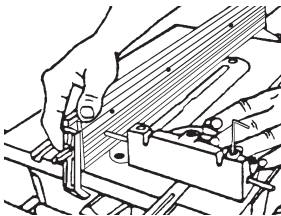

Figure 71
- b. Use a Medium Screwdriver to adjust the Glides in or out, as illustrated in Figure 71, so that the Glides hold the Miter Gauge 1/64" to 1/32" off the Worktable and the Miter Gauge does not rock in the Slots.
- c. Adjust the Fence by pulling or pushing it closer to, or farther from, the 5/32" Allen Wrench, as shown in Figure 71.